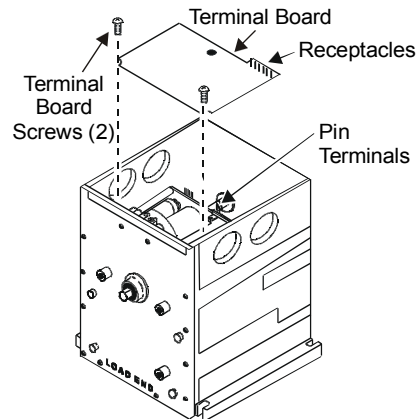

Figure 2: Installing the Terminal Board
The actuators are factory set at the zero position and for 90° travel. The zero position is 10° Clockwise (CW) from vertical. (See Figure 2.) Spring return models always return Counterclockwise (CCW) to the zero position when power is removed.
1. Install the terminal board by carefully placing the terminal receptacles onto the pin terminals. (See Figure 2.)